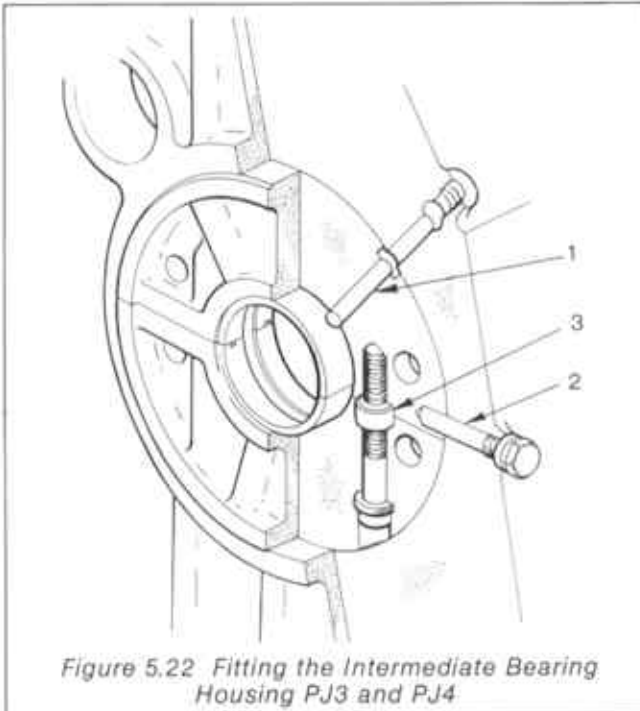

Figure 5.22 Fitting the Intermediate Bearing Housing PJ3 and PJ4
- (4) Check that the crankshaft journal bearing surfaces and oil holes are clean. Place a small quantity of engine lubricating oil on the crankshaft journal and bearing surfaces.
- (5) **Two Cylinder Engines** On two cylinder engines make sure that the intermediate main bearing housing is correctly assembled on the crankshaft with the sides marked TOP towards the flywheel end. Tighten the cap nuts to a torque of 34 Nm (25 lbf. ft).
- (6) **Three and Four Cylinder Engines** (Figure 5.22). On three and four cylinder engines make sure that the intermediate bearing housings are correctly fitted with the oil hole (1) and locking screw hole (2) in their relative positions. Make sure the dowels (3) are correctly fitted and tighten the capscrews to a torque of 54 Nm (40 lbf. ft).
- (7) Insert the crankshaft into the gear end bearing, taking care not to damage the bearing surface.
- (8) Apply a small quantity of engine lubricating oil to the flywheel end main bearing and crankshaft journal and fit the main bearing housing assembly. Fit an oil seal sleeve to avoid damage to the oil seal when entering over the crankshaft. Tighten down the three securing bolts evenly.
- (9) With the SAE5 bellhousing fitted, ensure that the oil seal and its bearing face are